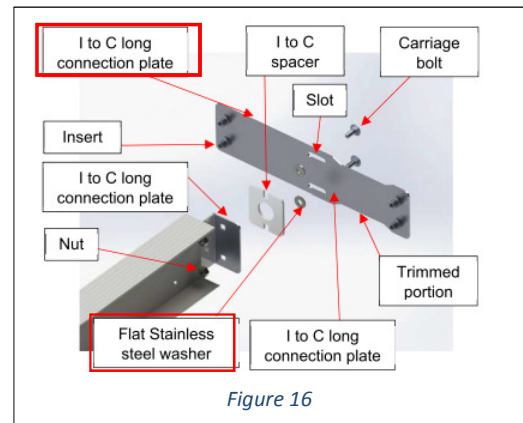

Figure 16
- Install the new slotted I-to-C long connection plate and flat washers on two I-beam. (Figure 16) Make sure the trimmed portion of the connection plate are facing the same way as the bend. Make sure the I-beam is free to move in the slots. (Figure 16).